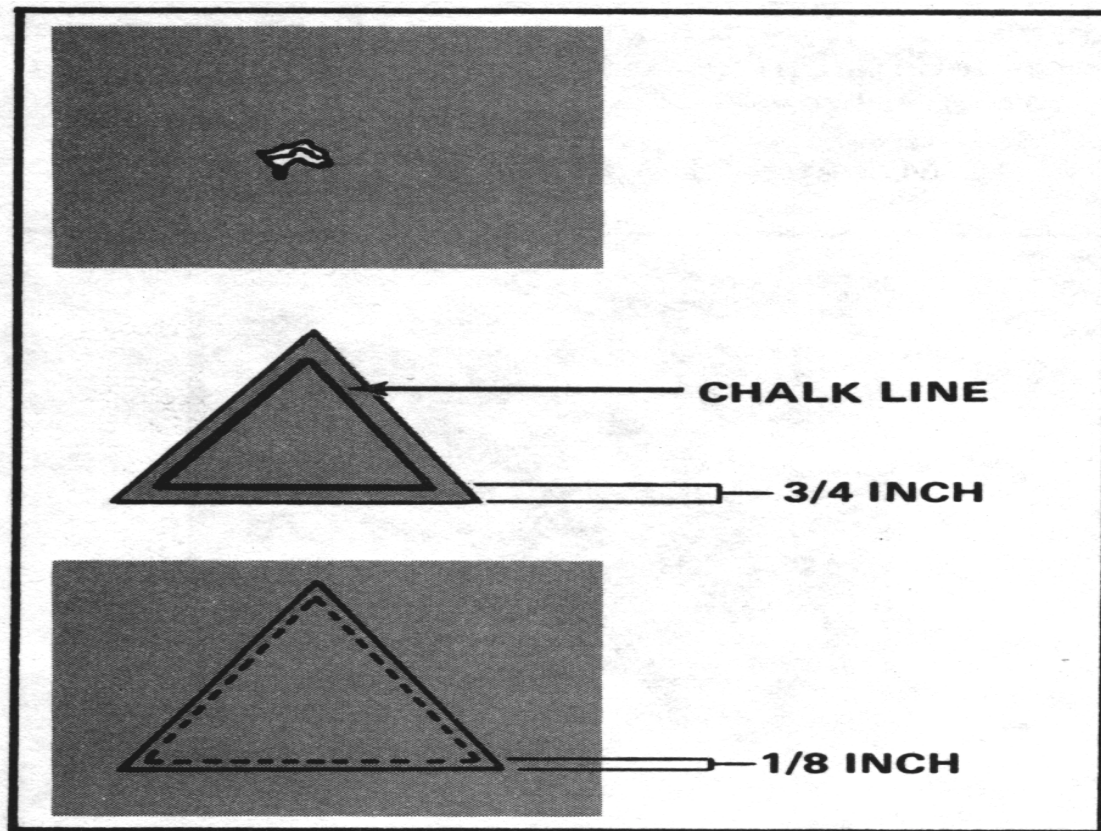

Figure 9-12. Tarpaulin patch
f. Tarpaulin Patch. A tarpaulin patch (Figure 9-12) is used to repair protective canvas covers. The patch is triangular so that it can shed water easily when the tarpaulin is draped over objects. To make a tarpaulin patch--
- (1) Measure the damage.
- (2) Cut a three-sided patch from matching canvas. Make the patch large enough to extend $2\frac{3}{4}$ to $3\frac{3}{4}$ inches beyond the damage on all three sides.
- (3) Turn the patch faceup. Draw chalk lines $\frac{3}{4}$ inch from the raw edges on all three sides.
- (4) Turn under the raw edges on the chalk lines, and crease the folded edges in place. (If the damage is near a seam, tuck one side of the patch into the seam.)
- (5) Stitch the patch in place by sewing a seam around the three sides $\frac{1}{8}$ inch from the folded edges. Tack the seam for at least 1 inch.